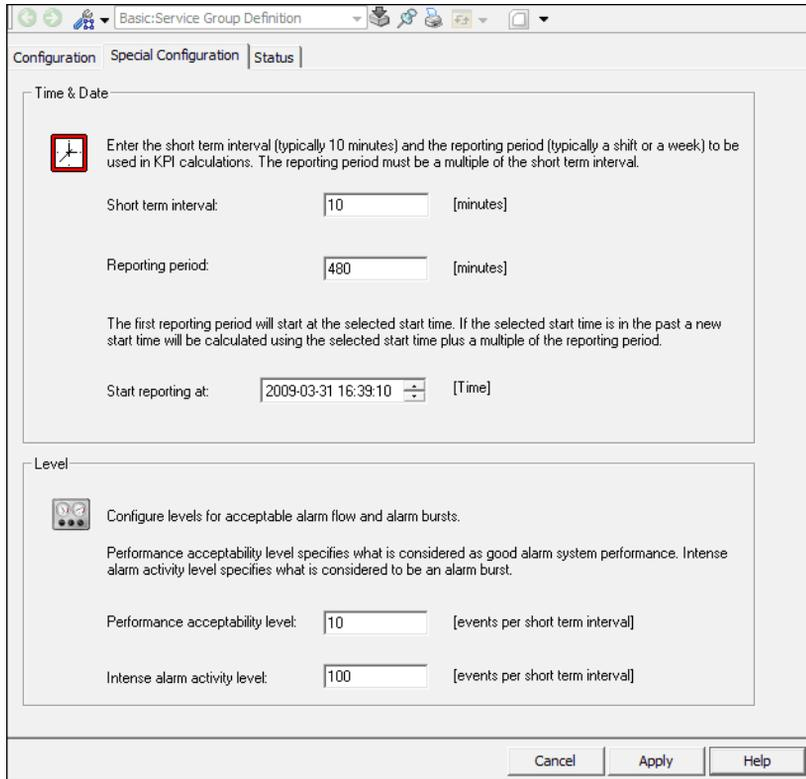

Figure 70. Alarm Analysis Configuration
2. On the **Special Configuration** tab of the service group definition (Figure 70), configure the following settings: